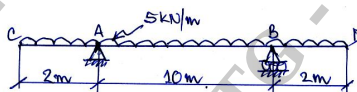

Fig. Q6 (b)
b. Draw shear force and bending moment diagrams for a beam loaded as shown in Fig. Q6 (b). Indicate the point of inflexion and locate the points of contraflexure and also maximum bending moment. (08 Marks)